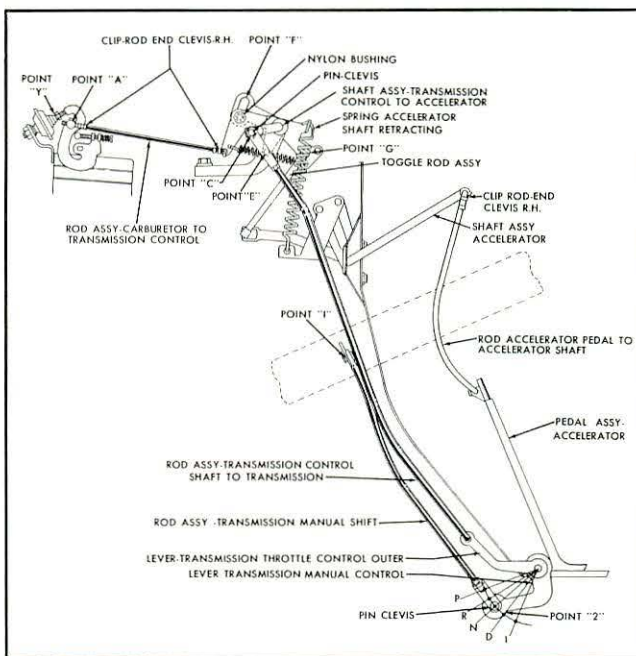

FIGURE 1 — THROTTLE LINKAGE
Set the hand brake and adjust the engine idle to 425 RPM with engine at normal operating temperature, fast idle cam in low idle position, and transmission in "Drive" range. Adjust the anti-stall dashpot by turning the throttle lever set screw out until the dashpot plunger bottoms, then back it off to give .045" to .065" clearance. See point "Y" figure 1.
1. Disconnect Transmission Manual Shift Rod assembly from Transmission Control Selector Arm assembly. See point "1", figure 1.
3. Position Transmission Manual Control Lever so that it is in the second position from the bottom (counting the end position as the first position). See point "2", figure 1.